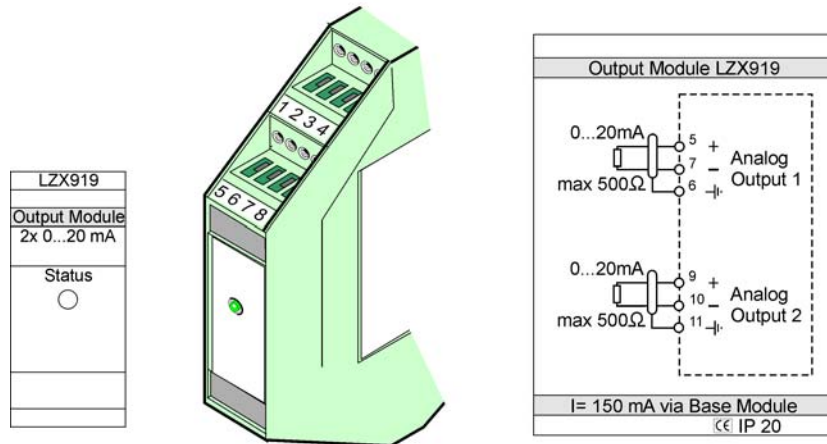

Figure 79 External output module
3. Make the appropriate connections as shown in Figure 79 and Table 52.